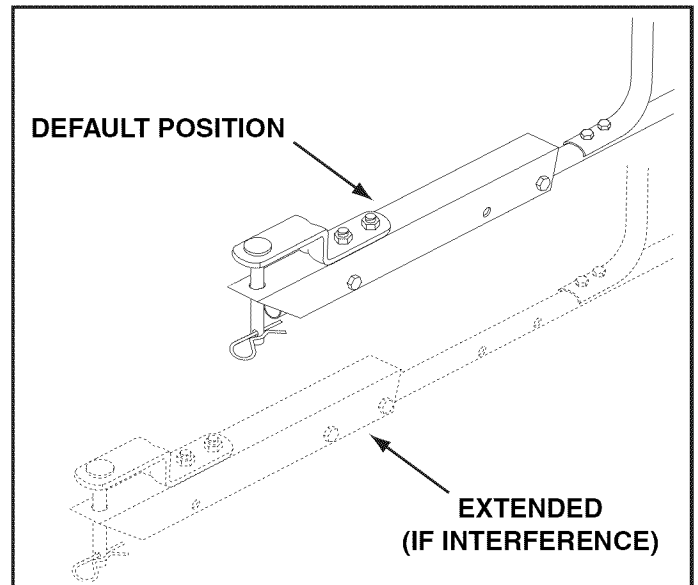

FIGURE 10
STEP 10: (SEE FIGURE 10)
- For most vehicles, you can keep the assembled hitch extension bracket in its default position shown in figure 10. Attach the spreader hitch to your vehicle hitch. Check for interference with the spreader directly behind and out to both sides of the vehicle. Lift the spreader at each position to make sure there is no interference with the spreader's flow control. If there is interference with the rear of the vehicle, assemble the hitch extension bracket as shown at the **bottom** of figure 10. **Tighten** bolts and nuts when finished.